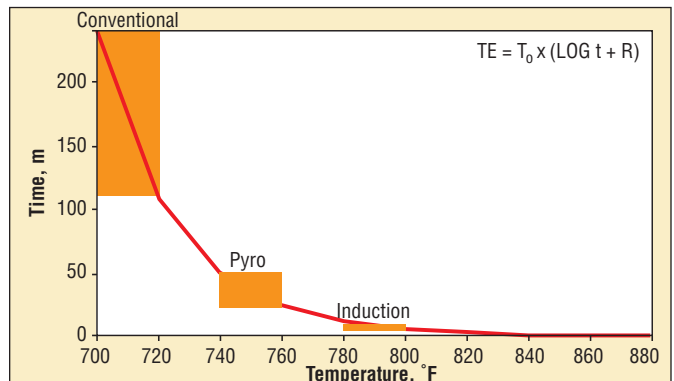

Fig. 2. Larson and Miller – Time-temperature relationship for rupture and creep stresses
er[2] described this time-temperature relationship as a Thermal Effect (TE) function. As time decreases, temperature must increase to achieve equivalent results. Please note in Figure 2 that as treatment temperature increases, the process window, or time, decreases. In other words, going fast requires precision.